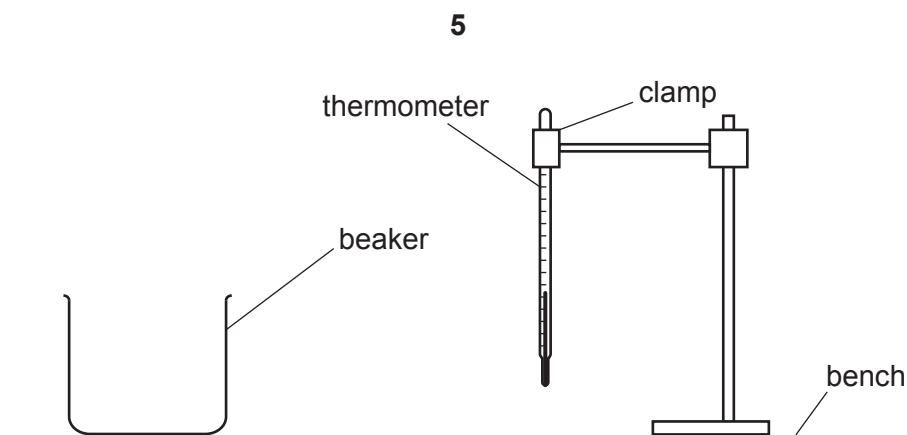

Fig. 2.1
- 2 The thermometer, clamp, boss and stand are to be set up for candidates as shown in Fig. 2.1. The thermometer bulb must be well below the 100 cm³ level of the beaker. Candidates must be able easily and safely to read temperatures up to 100 °C and to move the thermometer into and out of the beaker.
Check that the apparatus is intact and is arranged as in Fig. 2.1.